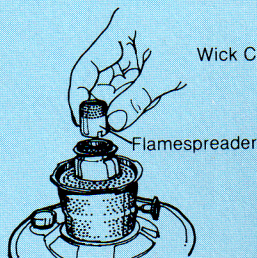
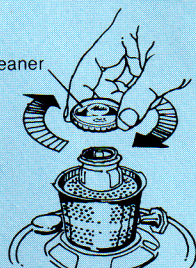

Fig. 11
Fig. 12
9. Do not clean wick unless it has a formation of carbon crust on it. If it must be cleaned, remove gallery assembly and turn wick down even with wick tube flange (Please refer to burner diagram on page 5). Then remove flame spreader (thimble-like part) from inner wick tube. (Fig. 11) Insert wick cleaner (which is packed with your kerosene burner) into wick tube. (Fig. 12) Turn wick up until it presses gently against the cleaner. Turn cleaner clockwise slowly